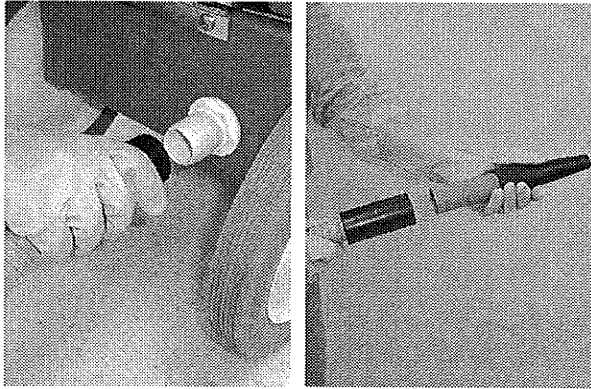

FIG. 21
2. Unwrap gray blower hose from machine handle and connect hose at rear of machine, attach blower nozzle to hose (Figure 21).